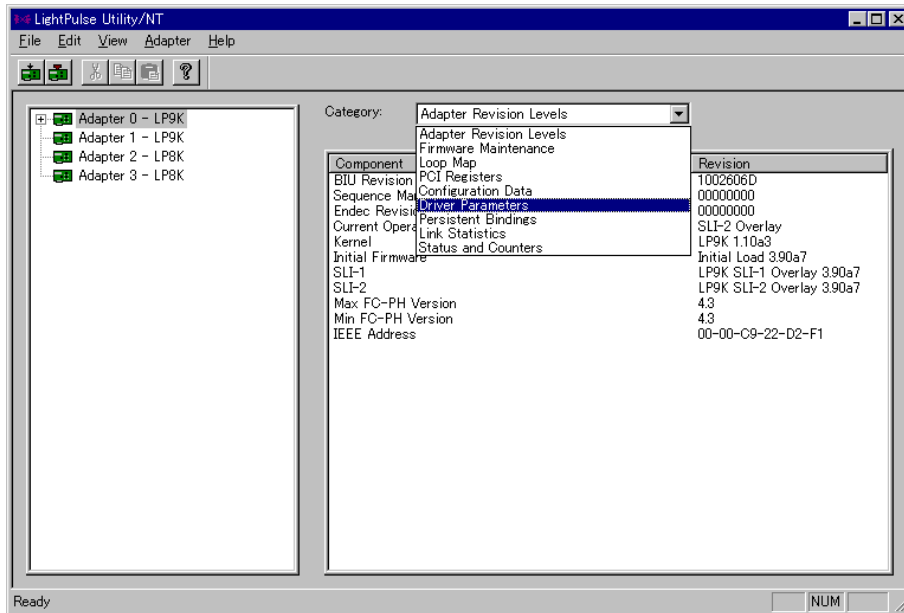

Figure C.2 Selecting the Drive Parameters
3. Select the **Driver Parameters** in the Category drop-down list (refer the Figure C.2).